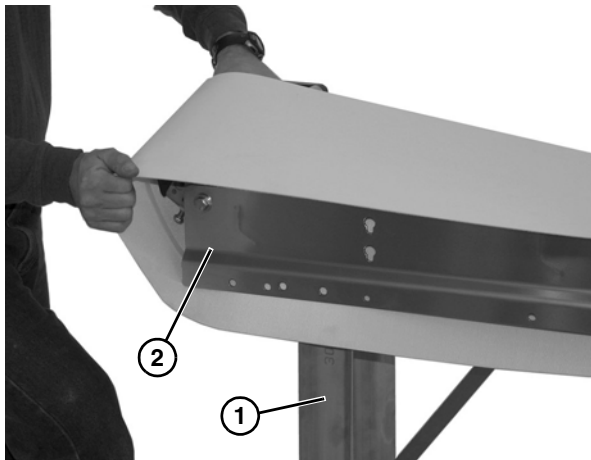

Figure 32
6. Remove the belt from under the stand (**Figure 32, item 1**) and from the conveyor (**Figure 32, item 2**) on both ends.